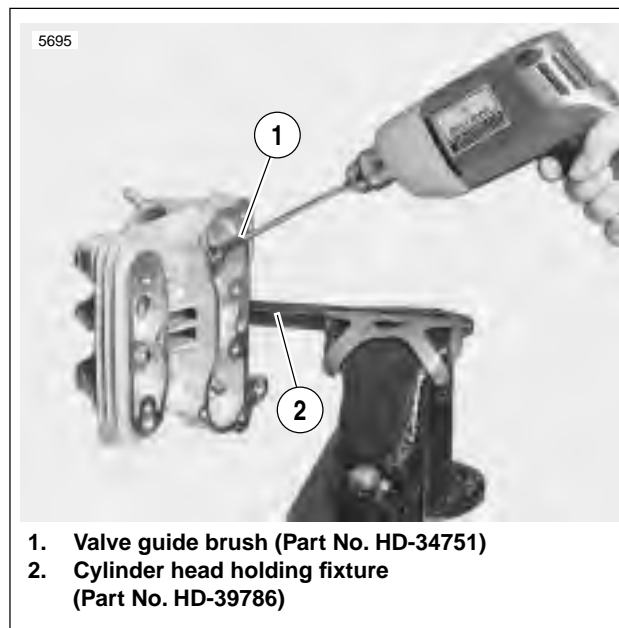

Figure 3-75. Cleaning Valve Guides
- See Figure 3-75. Thoroughly clean valve guide bores using VALVE GUIDE BRUSH (Part No. HD-34751) and hot soapy water.